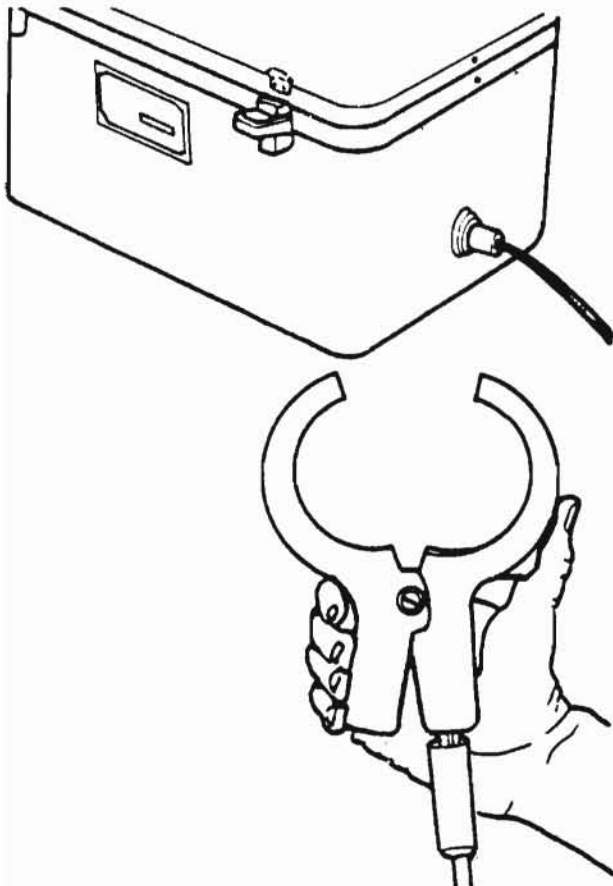

Fig. 5 - Opened Dyna-Coupler™. In the background, the Coupler Cable is shown connected to the Transmitter Output Jack.
**3.03 DYNA-COUPLER™.** If access to the cable is available, this is the easiest and most accurate way to put tone on only one cable. Connect the coupler assembly to the Transmitter Output Jack with the 12-foot cable assembly (Fig. 5). Then open the coupler jaws and place them around the desired cable (or conductor). The tone will be loudest on just that one cable. It is unnecessary to remove common bonding or ground, or to open the cable or conductor.